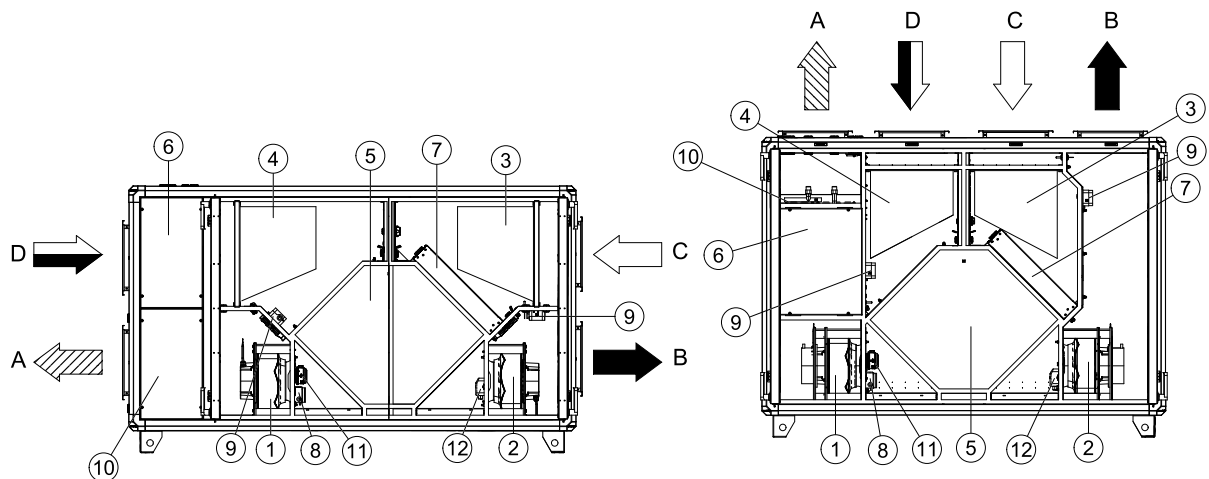

Fig. 1
A pressure guard measures the differential pressure over the supply and extract air filters (pos. 9 figure 1. When the pressure drop reaches the set value an alarm is triggered in the main regulator. The differential pressure can be set between 40 and 300 Pa. The pressure switch is preset from factory to 240 Pa.